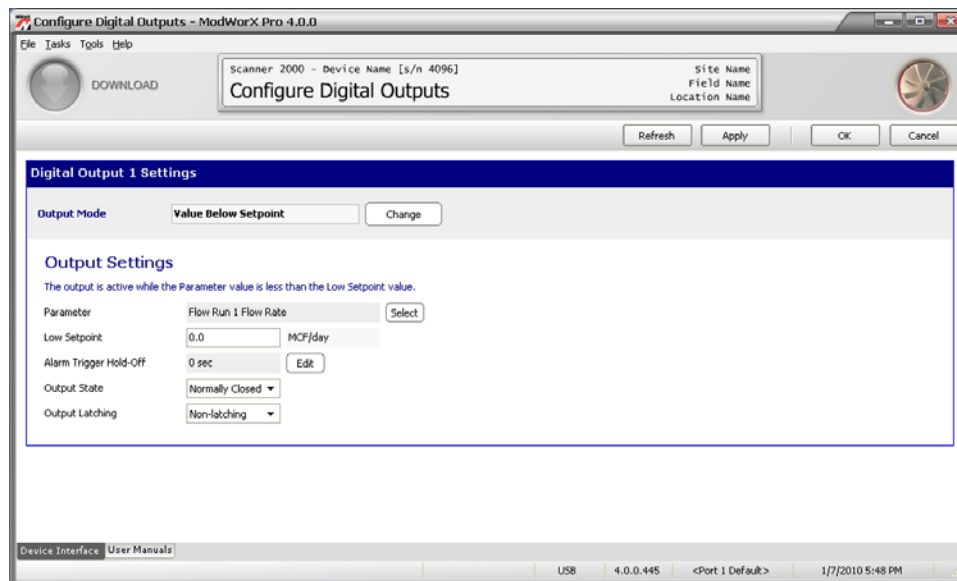

Figure 7.15
- Click **OK** to save the setting and return to the Configure Digital Outputs screen (Figure 7.15). In this example, the alarm output is configured to activate when the value is below the designated threshold.
7. Change the output state, if necessary (Figure 7.15, page 103). Options are Normally Open and Normally Closed.
8. Change the Output Latching setting, if necessary (Figure 7.15, page 103). Options are Non-latching and Latching. If the alarm is latched, it will remain active once it is activated, even if the assigned parameter value returns to a normal range. The alarm must be manually cleared by the operator. If the alarm is non-latching, the alarm will clear when the assigned parameter value returns to a normal range without intervention from the operator.